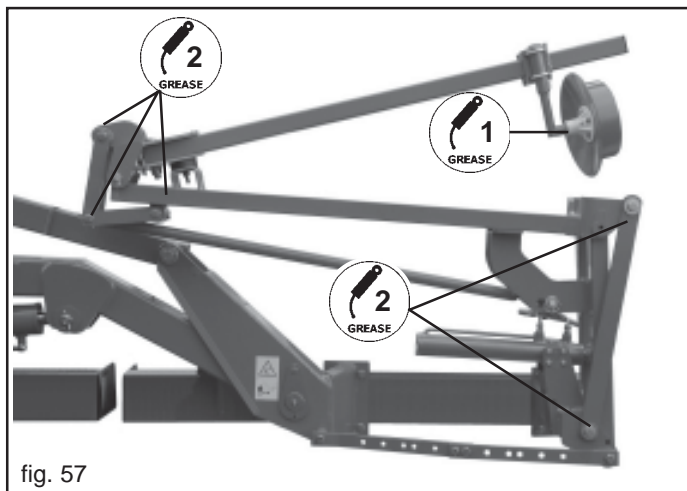

fig. 57
- Grease the row-marker disc pin (1, Fig. 57).